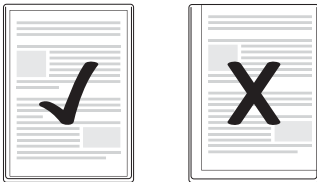

Fig. 1
- ▶ Ensure that all edges of the document have at least two millimetres of space to the edges of the laminating pouch, as shown in Fig. 1.
- ▶ Ensure that all edges of the document have at least two millimetres of space to the edges of the laminating pouch, as shown in Fig. 1 (see p. 50).